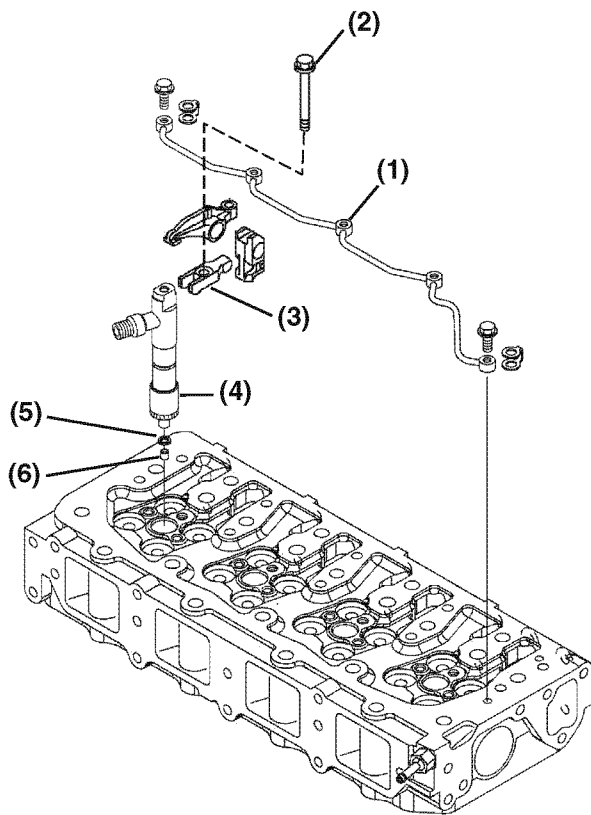

Figure 7-53
3. Remove the injector return line (**Figure 7-53, (1)**). Be careful not to bend the line.
4. Remove the fuel injector mounting clamp bolts (**Figure 7-53, (2)**). Lift the injector mounting clamps (**Figure 7-53, (3)**) away from injector.
5. Remove the fuel injector (**Figure 7-53, (4)**) from the cylinder head.
6. Remove the injector nozzle protector (**Figure 7-53, (5)**) and seat (**Figure 7-53, (6)**) from the cylinder head. Discard both items.